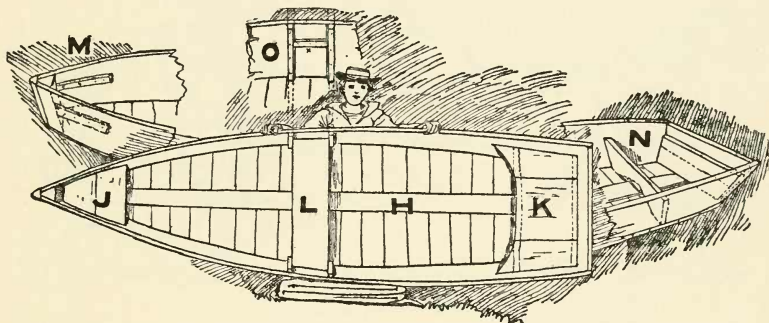

Fig. 197.—Details of bow, stern, seats, and finished boat.
consist of a triangular one at the bow (J), the oarsman's seat (L), and the stern seat (K, Fig. 197). The bow seat is made of 1-inch boards nailed to two cleats shown at M (Fig. 197). N shows the bench for the stern seat and O explains the arrangement of the oarsman's seat a little forward amidship. As may be seen, it rests upon the cleats x (diagram O, Fig. 197), which are fitted between two upright cleats on each side of the boat; this makes a seat which will not slip out of place, and the cleats serve to strengthen the sides of the otherwise ribless boat. Make the cleats of 1 by 2 inch lumber and let the seat be about 12 inches wide. The stern seat may be wider, $1\frac{1}{2}$ feet at K and 4 or 5 inches
more at the long sides of the two boards each side of K (Fig. 197). Of course, it is not necessary to fit a board in against the stern-piece, for a cleat will answer the purpose, but a good, heavy stern-piece is often desirable and the board shown in diagram N (Fig.
is an advisable addition to the boat, but may also be omitted without serious results (H, Fig. 197).